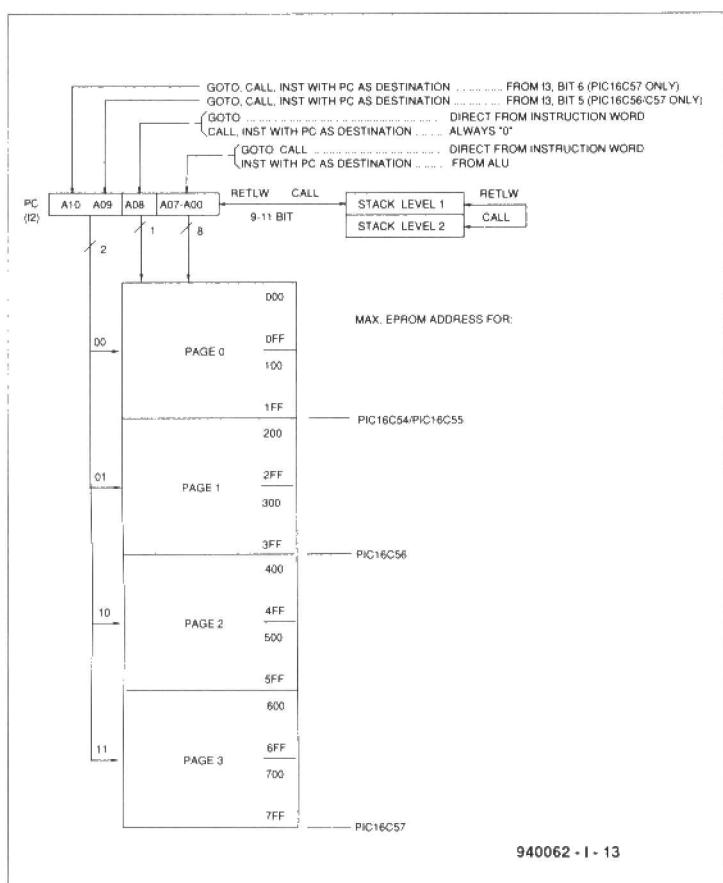

Fig. 3. Structure of the program memory, which is divided into pages.
The structure of the program memory is illustrated in Fig. 3. Sequencing of microinstructions is controlled via the program counter (PC) using a 9-bit or 11-bit wide address. Some precautions have to be taken when executing branch instructions, or starting a subroutine. Problems may then occur if it is assumed that the data is 8 bit wide, which makes it impossible to fit in operands having a width of 9 bits or more.